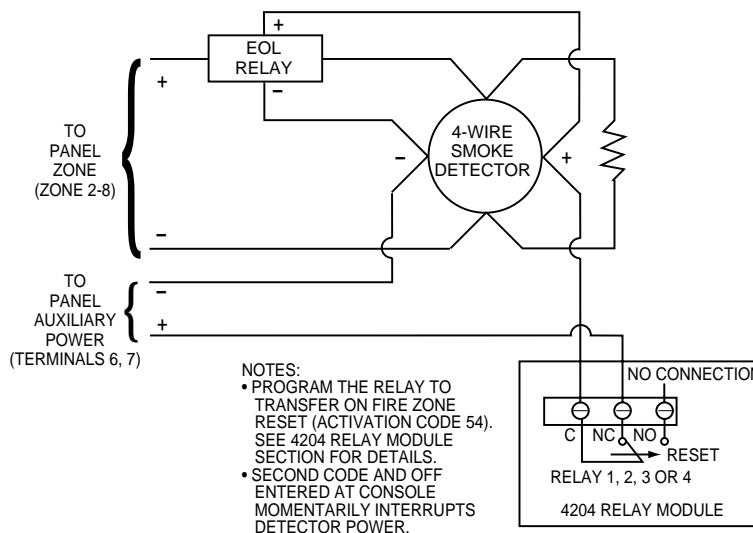

Figure 11: 4-Wire Smoke Detector Power Reset Using 4204 Relay Module
1. Connect 12 volt power for the detectors from Auxiliary Power terminals 6 and 7 as follows:: Wire the [+] side of Auxiliary Power (Terminal 6) to the N.C. contact of the 4204 relay. Wire the Pole of the Relay to the [+] Power side of the smoke detector. Connect the [-] side of the smoke detector to [-] Aux. Power (Terminal 7). Observe proper polarity when connecting detectors (see *Figure 11*).